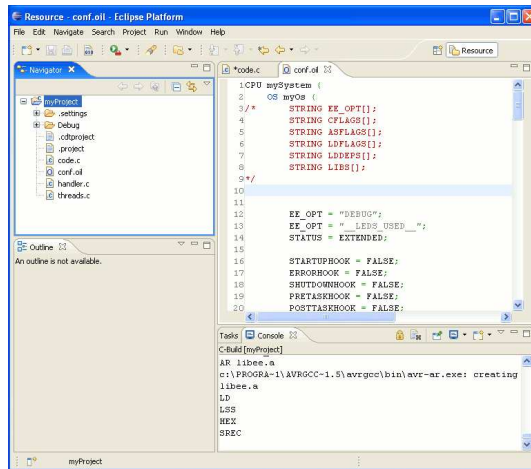

Figure 4.5: The compilation process.
6. Then, the compilation process starts as depicted in Figure 4.5. Please note the message that appears when the compilation is successful.